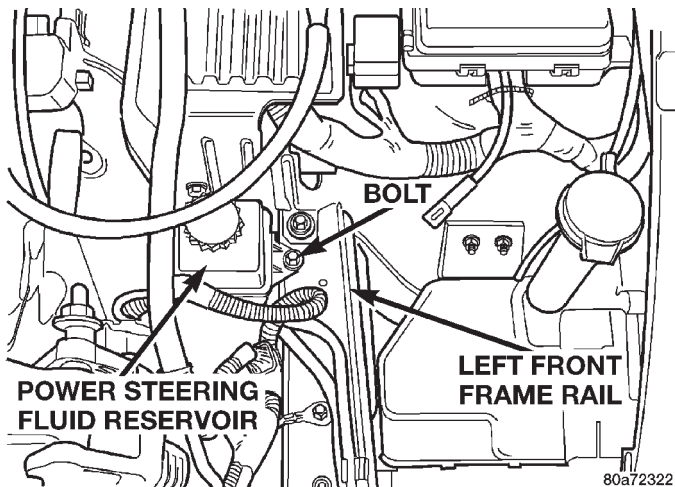

Fig. 25 Power Steering Fluid Reservoir
- (5) Remove the bolt (Fig. 25) attaching the power steering fluid reservoir to the left frame rail.
(7) Position the power steering fluid reservoir on the frame rail. Install the mounting bolt for the power steering fluid reservoir (Fig. 25). Tighten the mounting bolt to a torque of 12 N·m (106 in. lbs.).